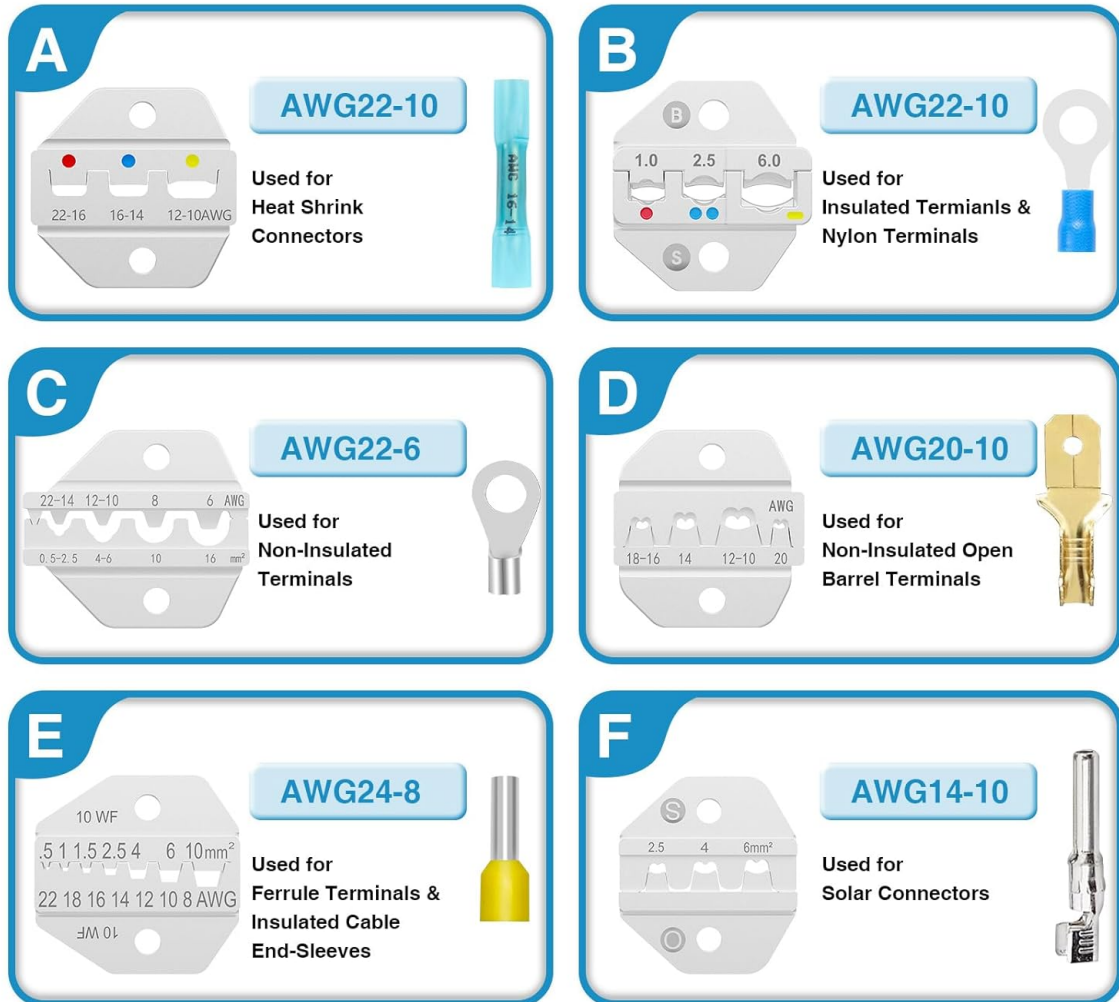

Figure 3: Overview of the six interchangeable crimping dies and their compatible terminal types.
4. Select the appropriate new dies for your application (refer to Figure 3 for die types).